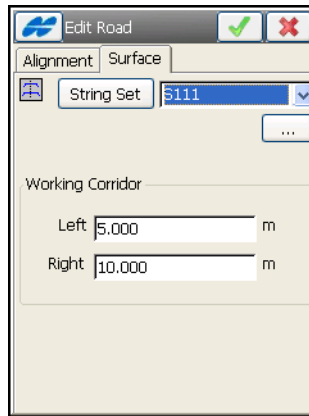

Figure 7-3. Edit Road Surface
3. On the *Surface* tab of the *Edit Road* screen, define the road surface (Figure 7-3 on page 7-4).